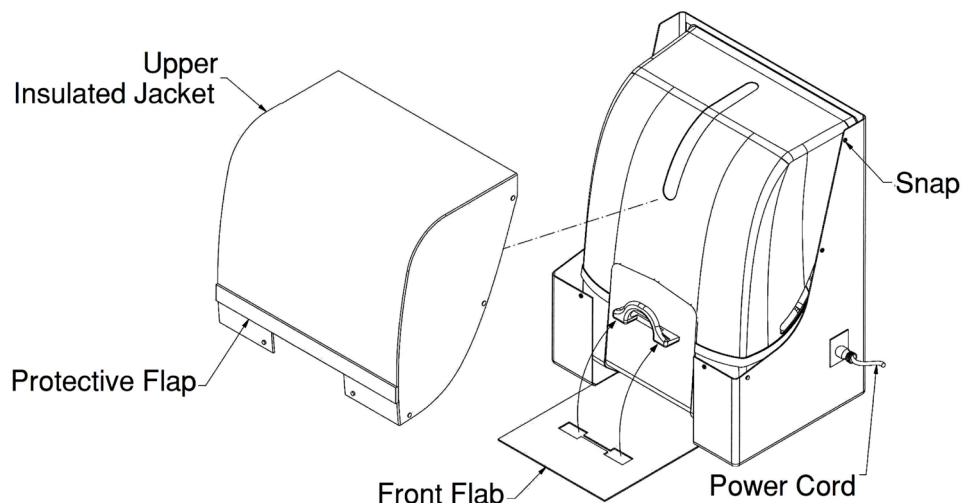

FIGURE 14
Step 10. Upper Insulated Jacket (Ref Figure 14)